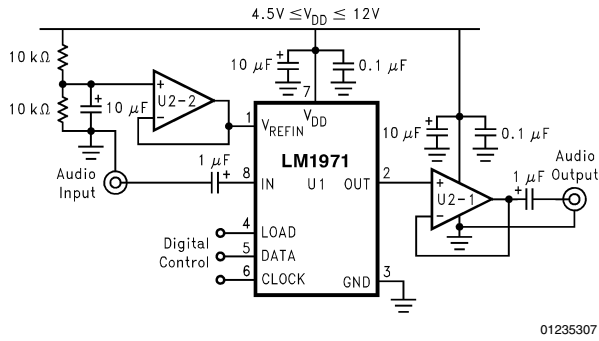

FIGURE 6. Higher Performance Active Half-Supply Buffering
V_{REF}IN (1): The V_{REF}IN pin provides the reference for the analog input signal. This pin should be biased at half of the supply voltage, V_{DD}, as shown in *Figure 1* and *Figure 6*.
A more stable half-supply node can be obtained by actively buffering the resistor divider network with a voltage follower as shown in *Figure 6*. Supply fluctuations are then isolated by the high input impedance/low output impedance mismatch associated with effective filtering. Since the LM1971 is a single channel device, using a dual JFET input op amp is optimum for both output buffering and half-supply biasing.